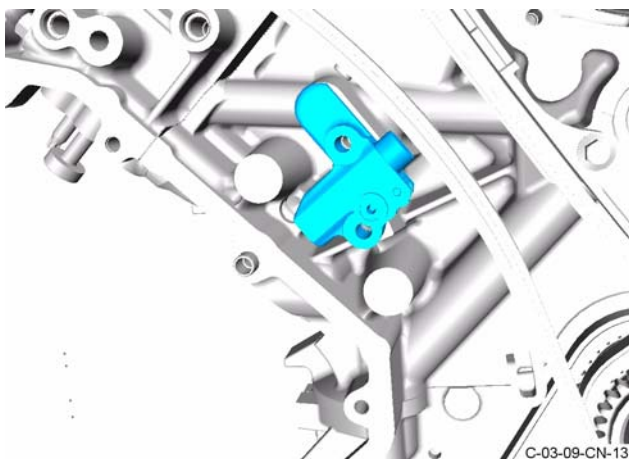

Figure 18
3. Install the timing chain tensioner (refer to Figure 18).